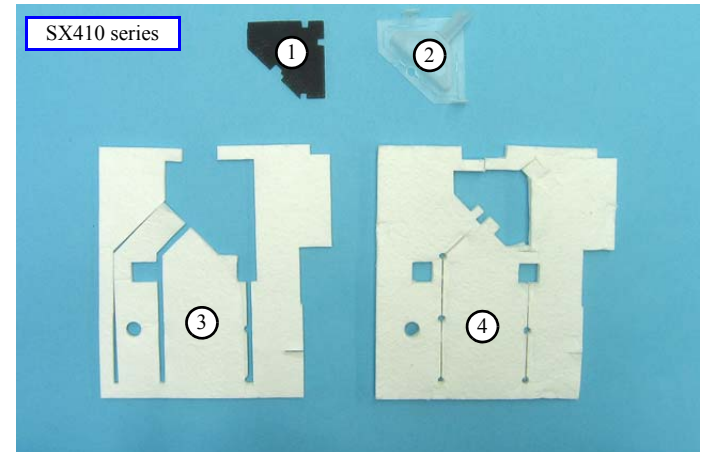

Figure 4-112. Installing the Waste Ink Pads (SX410 series)
- SX410 series: see Figure 4-112.